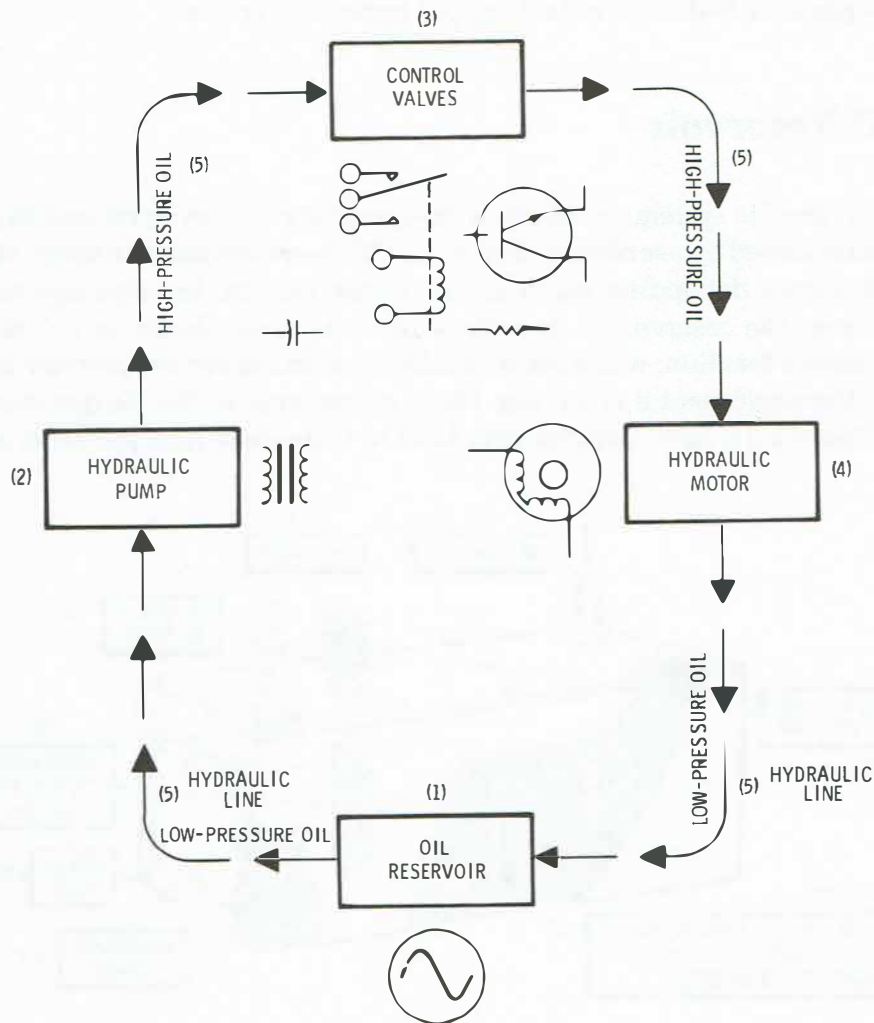

Figure 2-20
The basic hydraulic system, shown in Figure 2-20, can be compared to a simple electrical circuit. The oil reservoir (1) stores the hydraulic fluid used in the system. In this capacity, it acts much like an AC generator in